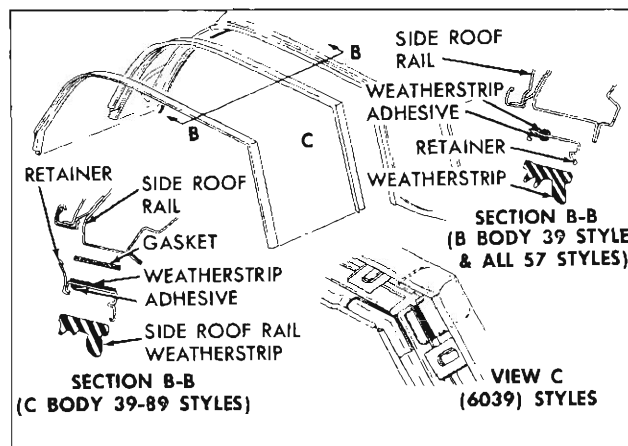

Fig. 62—Side Roof Rail Weatherstrip Assembly—39 and 47 Styles
2. Apply a continuous bead (approximately $\frac{3}{16}$ " diameter) of weatherstrip adhesive along entire outboard surface of side roof rail weatherstrip retainer (see Section "B-B" in Figure 62).